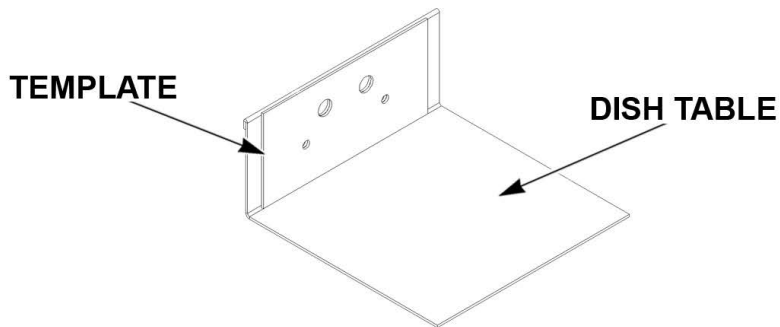

FIG. 1
1. Drill mounting holes in dish table using supplied template (refer to fig.1).